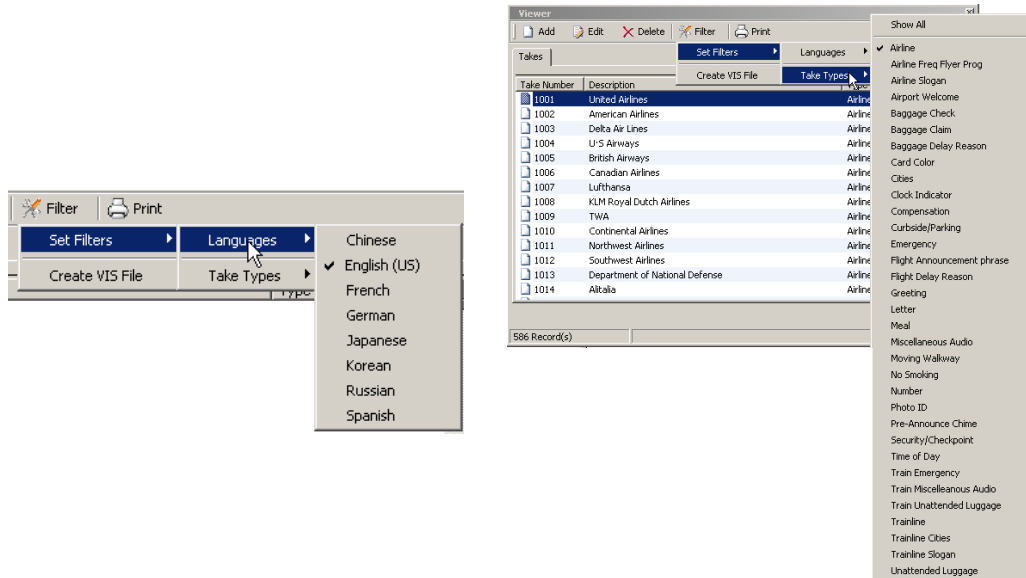

Figure 10-8: Takes Viewer Filter
3. Select the language for the takes to be displayed from the **Languages** menu (Figure 10-8).
4. Select the take type to be displayed from the **Take Type** menu (Figure 10-8). Select *Show All* to show all types in the list.